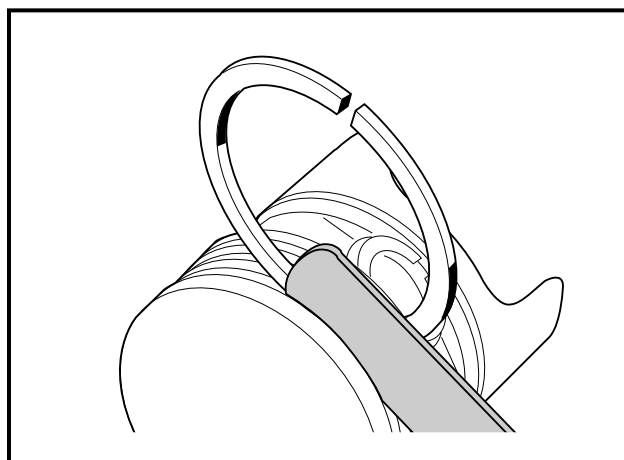

Figure 13-52 Measure Piston Ring and Groove Clearance
5. Using a new piston ring and a feeler gauge, measure the clearance between the grooves and ring at several points around the grooves (**Figure 13-52, Page 13-27**).